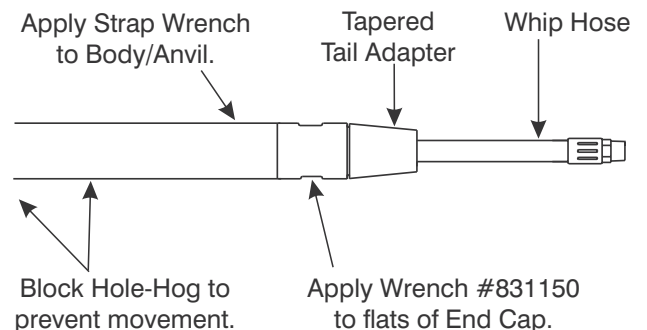

Figure 9-51. Secure End Cap to Body/Anvil.
10. Hand tighten the End Cap (16) to the Body/Anvil (1).
11. Place the Hole-Hog on a level surface. Holding the Body/Anvil (1) with a strap wrench, use wrench P/N 831150 from the Tool Kit to tighten the End Cap (18, as shown in Figure 9-51.